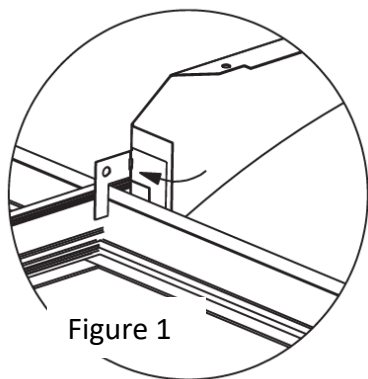

Figure 1
1. Bend out mounting tabs 90° at each corner (Fig. 1).